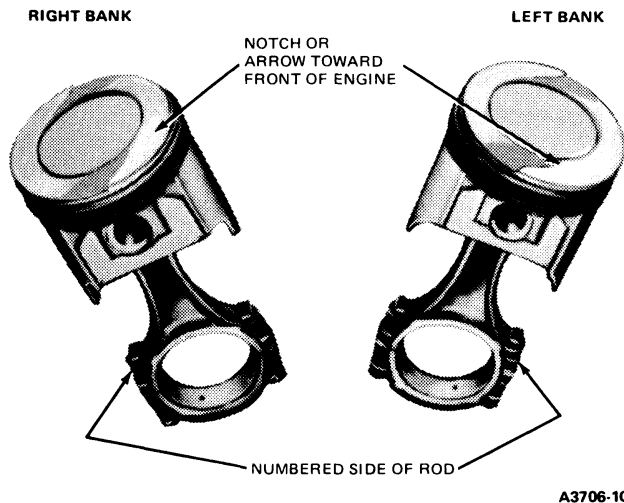

FIG. 55 Correct Piston and Rod Positions
1. Apply a light coat of engine oil SE to all parts. **Assemble the piston to the connecting rod with the indentation in the piston positioned as shown in Fig. 55.**